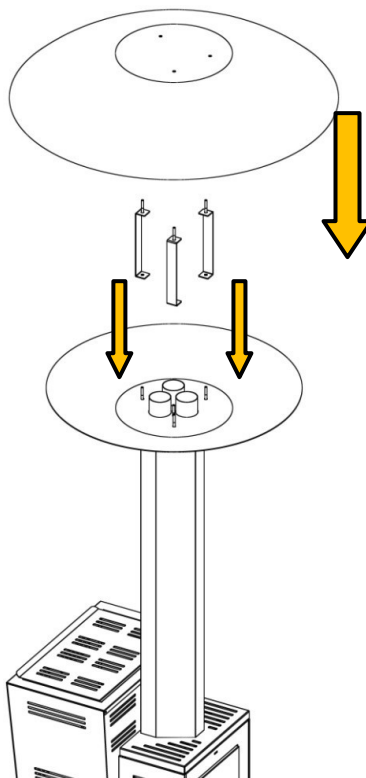

Fig. 5
- 4 Lay the three support and the upper dish, then secure everything with the supplied wing nuts (Fig.5)